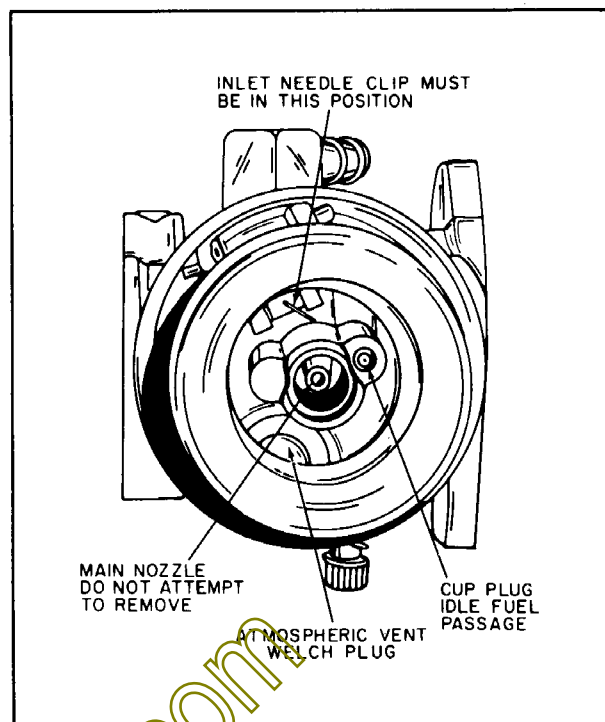
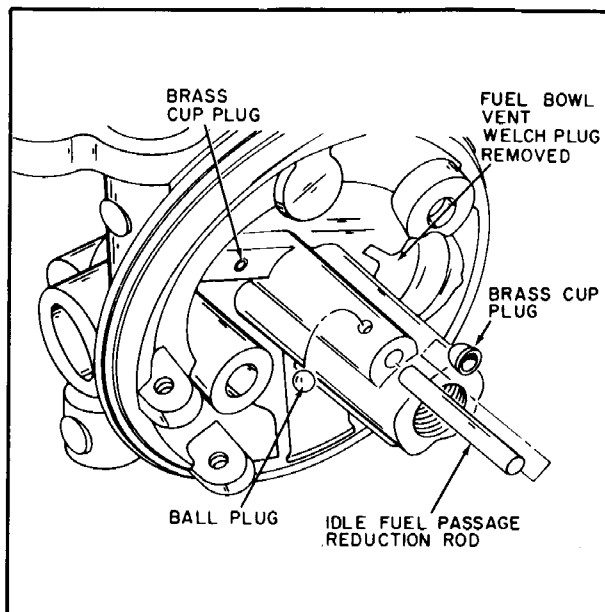

Figure 4-14
Figure 4-17
- a. It may be necessary to remove the large welch plug (Figures 4-14 and 4-17) if excessive dirt has accumulated in the atmospheric vent cavity, or it may be possible to clean this cavity with carburetor cleaner or compressed air without removing the welch plug.
- b. The carburetor body contains a main nozzle tube (Figure 4-14) pressed into the carburetor body to a predetermined depth and positioning within the venturi of the carburetor. Do not attempt to remove this main nozzle. Any movement of this nozzle will seriously affect the metering characteristics of the carburetor and will require replacement of the entire carburetor.
- d. The carburetor body contains two cup plugs. (Figure 4-17)
2. Another cup plug is located in the base (Figures 4-14 and 4-17) where the fuel bowl nut seals the idle fuel passage. Removal of this plug will allow removal of the metering rod (Figure 4-17) from the idle fuel passage. A new plug must always be used for replacement, and must be tightly sealed when it is replaced.
3. A small ball plug (Figure 4-17) located on the side of the idle fuel passage allows access to the idle fuel cross passage. This small fuel passage has been calibrated. Do not insert improper sized drill rods for cleaning purposes. If removed, it is very important that the cross passage be tightly sealed with a new plug.